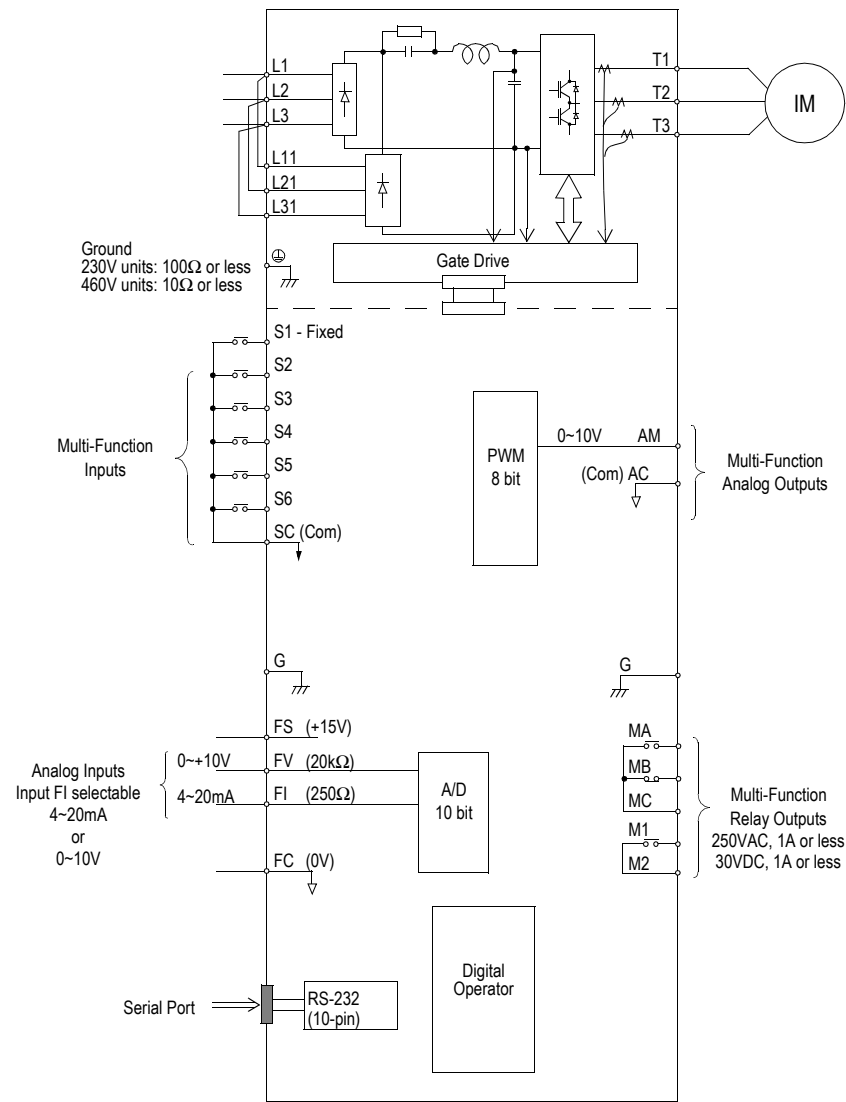

Figure 10 FP5/GP5 Terminal Diagram
- When using several FP5/GP5 units side by side, ground the units as shown in Figure 10, (a) or (b). Do not loop the wires as shown in (c).